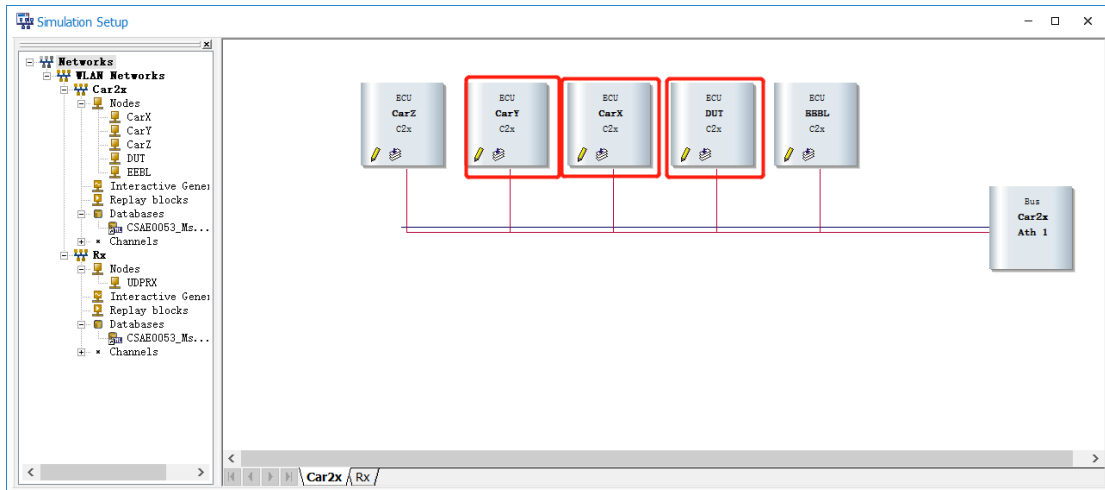
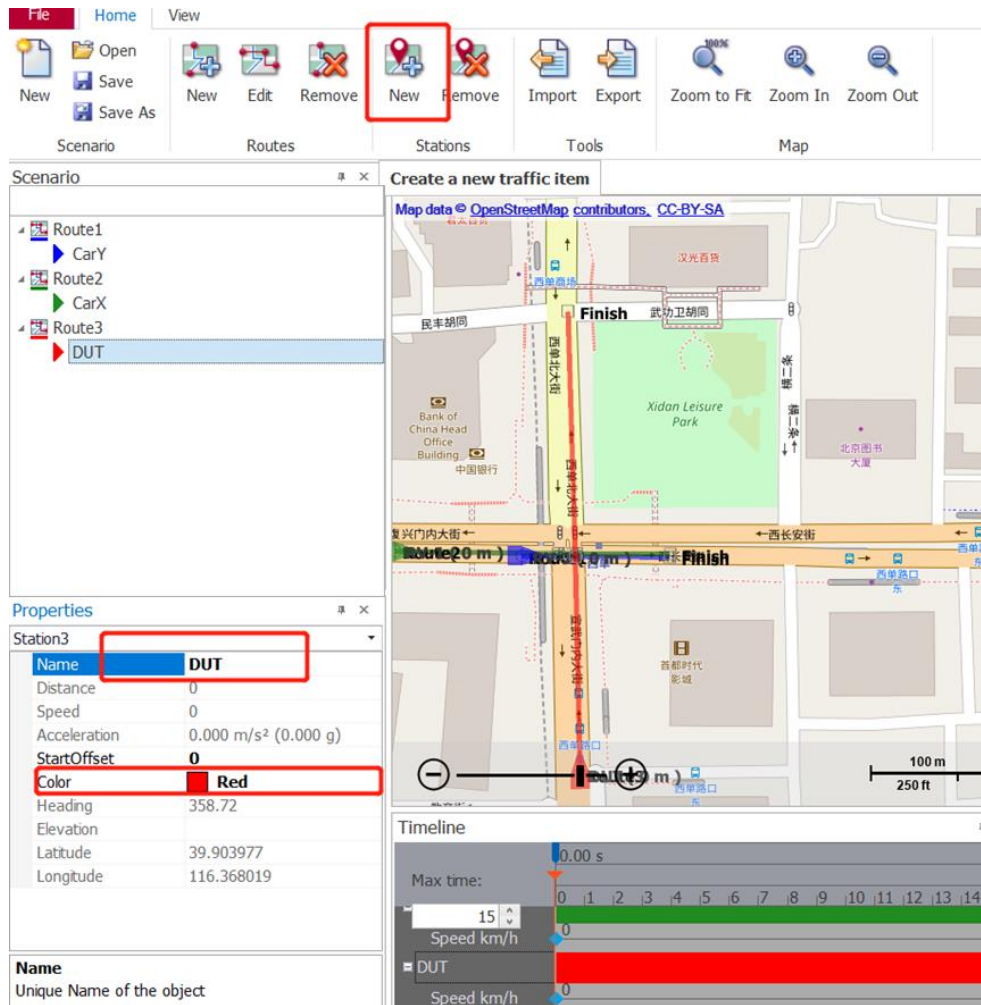

Figure 13: Vehicle simulation node
Figure 14: Edit the node name
- Click *New Stations*, add 1 vehicle node for each route, and edit its color and name referring to the name of each vehicle simulation node in the CANoe project. HV is named DUT, RV-1 is named CarY, and RV-2 is named CarX (Figure 13, Figure 14).